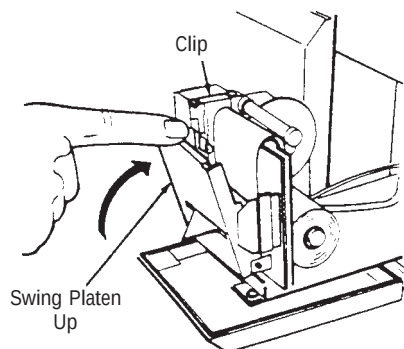

**Figure 5-16**
5. Raise platen to operating position (Figure 5-16).